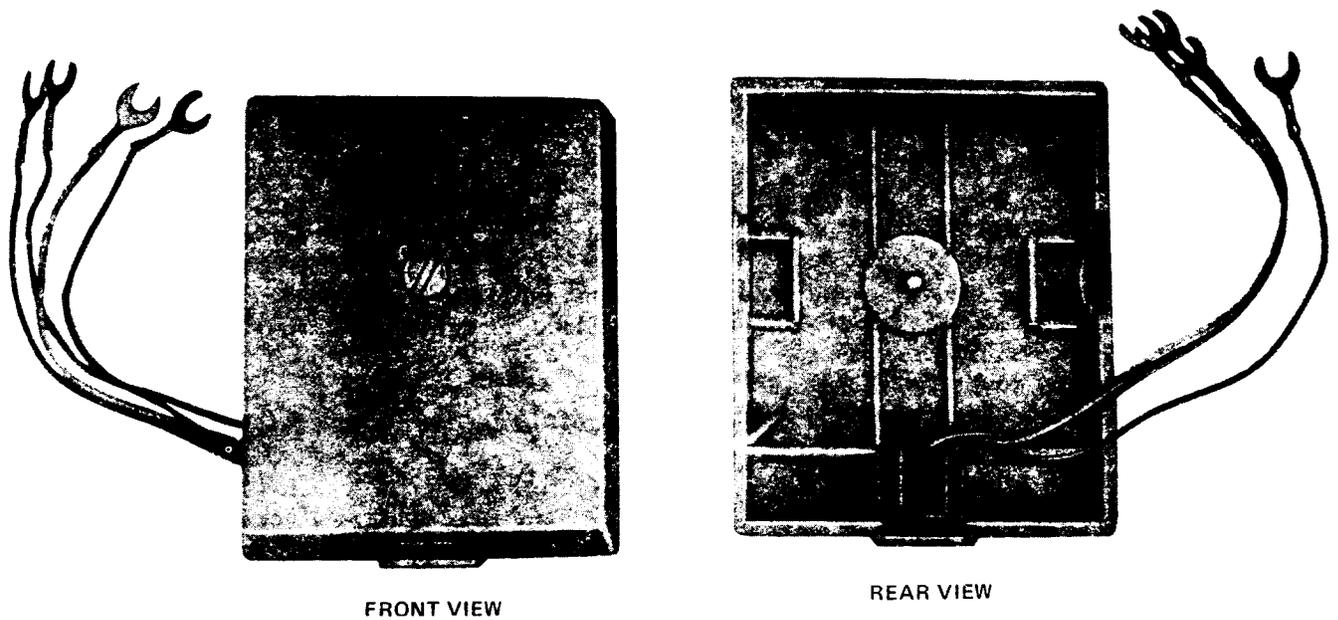

Fig. 3—625C Connecting Block
- Block, Connecting, 625C (Fig. 3)
C. 625C Connecting Block (Fig. 3)
2.05 The 625C connecting block (Fig. 3) is a cover intended to convert a 42A connecting block to modular. The spade-tipped jack leads provide the terminations to the connecting block screw terminals. It is surface mounted. It is available in light olive gray (-49), ivory (-50), and brown (-54).